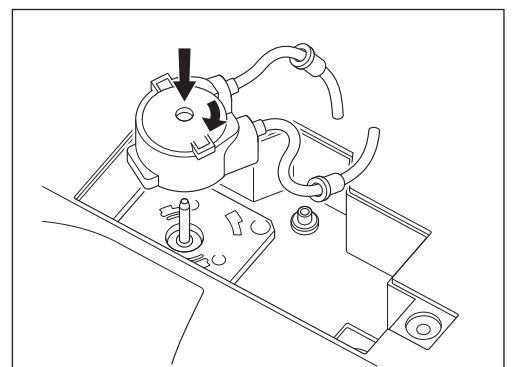

Fig. 54
- 7) Align the new Irrigation Pump (option) with the Drive Shaft. Turn clockwise until it clicks (Fig. 54).